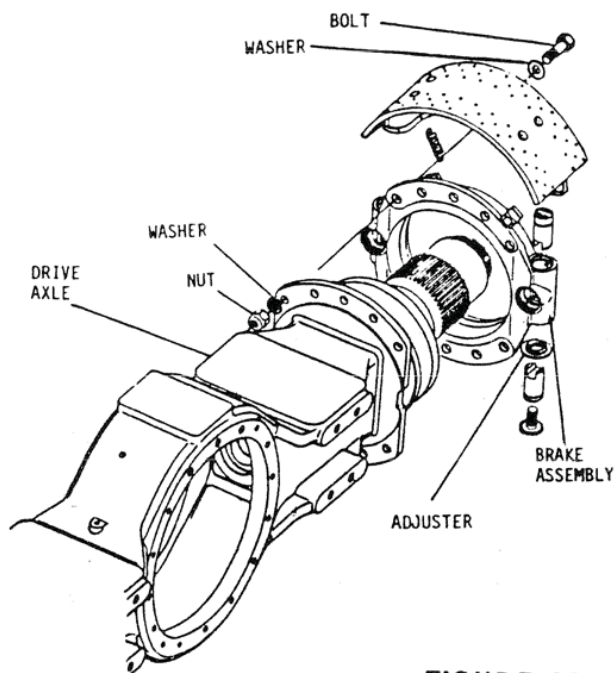

FIGURE 15
2. After you have established right and left brakes, install them on the pilot diameter of the housing. The brakes are a slip fit over the pilot and should seat against the mounting flange. See Figure 15.